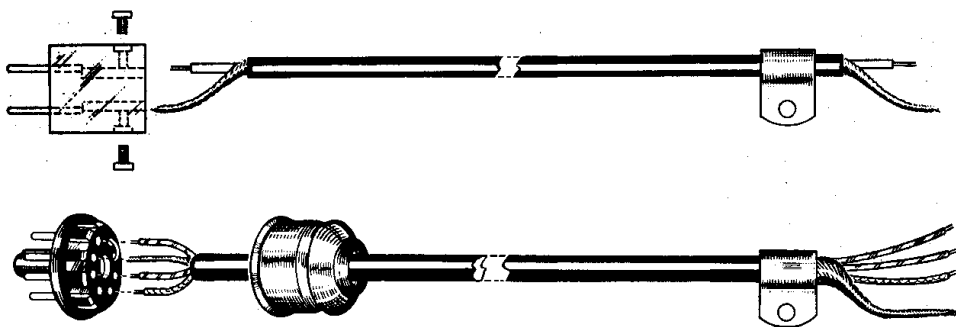
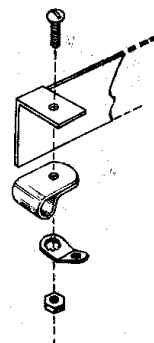

Figure 8.
Figure 9
- ~~X (✓)~~ Strip 1" of the outer coating from both ends of the coaxial cable, comb out and twist the shield braid as shown in Figure 8.
- X (✓) Mount the cable clamp to the clamp bracket and include a soldering lug in the mounting as shown in Figure 9.
- X (✓) Connect a .005 disc ceramic capacitor from the solder lug (NS) to G1 (NS).
- X (✓) Twist the shield braid together and connect to the solder lug (NS).
- X (✓) Connect the inter coax conductor to the 100  $\mu\text{f}$  capacitor coming from A5 (NS). See Pictorial 3.
- (✓) Connect a 47 K $\Omega$  resistor (yellow-purple-orange) from this point (S) to the solder lug (NS).
- (✓) Connect a bare wire to the same solder lug (S). Run the wire along the back of the chassis through G3 (S). Leave 1" extended free past G3.
- (✓) Connect free end of the 1.1 mh RF choke to G1 (S).
- (✓) Place a 1/4" cable clamp over the outer covering as shown in Figure 9.
- (✓) Insert the cable through grommet E2 and secure the cable clamp and a solder lug to the bracket in the same manner used with the coaxial cable. See Figure 9 and Pictorial 3.
- (✓) Twist the shield braid together and connect to the adjacent solder lug (NS). Cut off excess braid.
- (✓) Connect the wire coming from G3 to the solder lug (S).
- (✓) Connect the red wire to J2 (S).
- (✓) Connect the green wire to J4 (S).
- (✓) Connect the yellow wire to J1 (S).
- (✓) Refer to Figure 8 and prepare the remaining end of the coaxial cable as shown.
- (✓) Slide the octal socket cap over the wire as shown in Figure 8 with the large end toward the wire end.